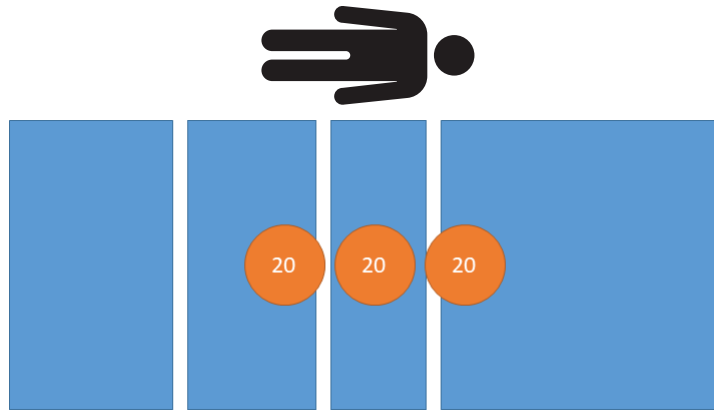

Figure 19 – Weigh performance test - 60 kg
2. Using calibrated weights, place 60 kg on the product (Figure 19).
10. Using calibrated weights, place 60 kg on the product (Figure 19).